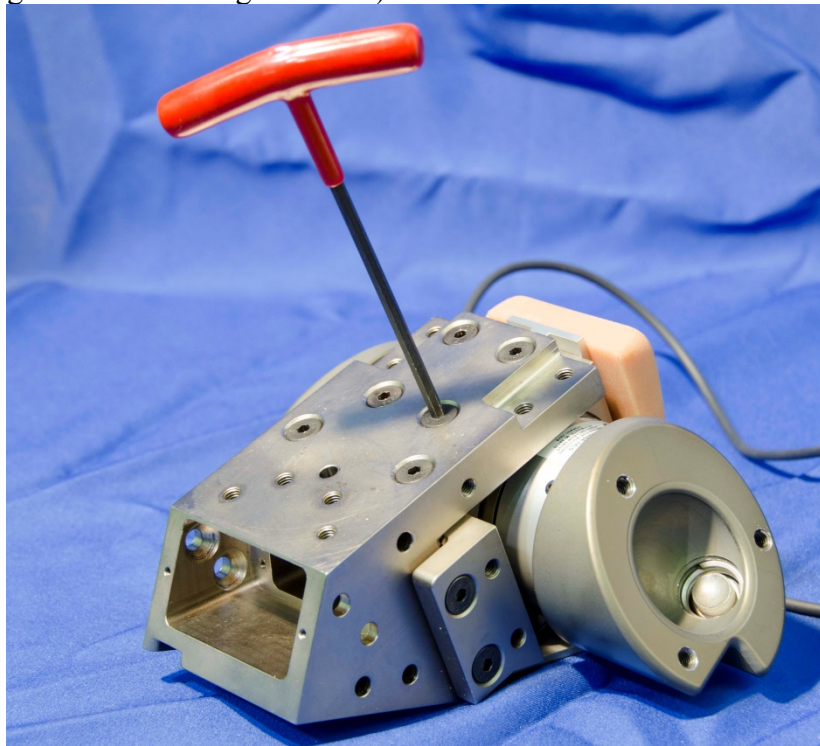
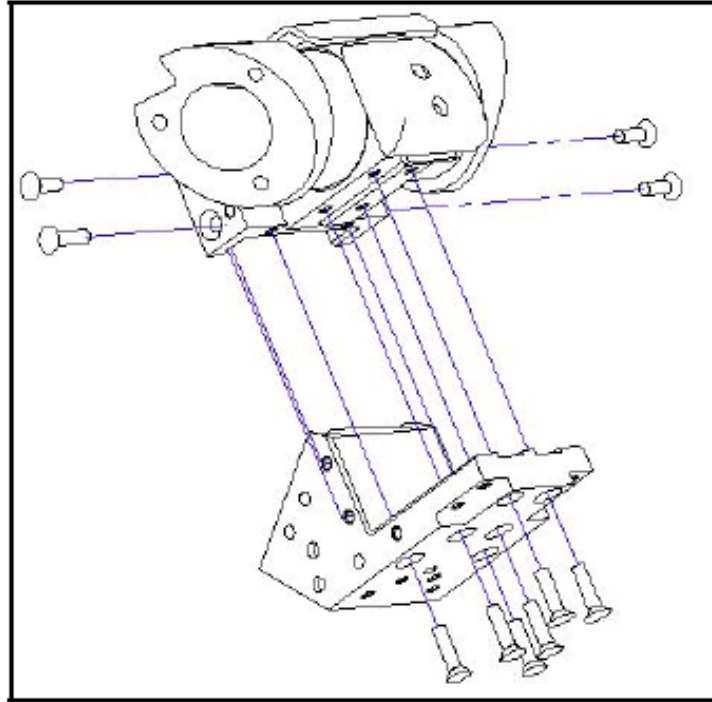

Figure 10-16. Secure pelvis base module to bottom of pelvic box assembly
Figure 10-17. Details for assembling pelvis base module to pelvic box assembly
10.2.2.11 Secure with six M6 x 25 FHCS on the bottom of the pelvis base module (Figure 10-16 and Figure 10-17).